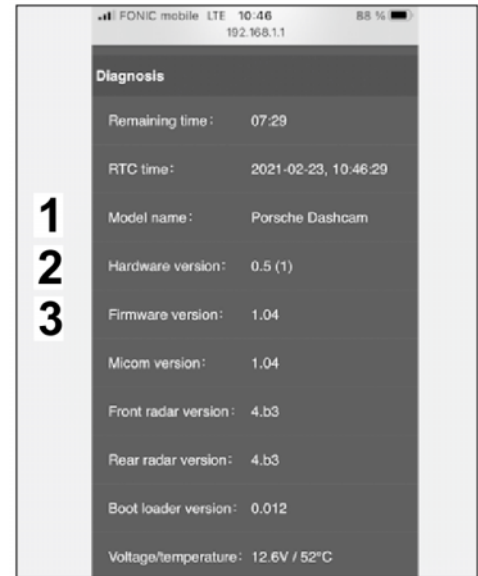

Figure 25
6.1 Information about the model name, hardware and software version, radar and more (⇒ *Figure 25*).